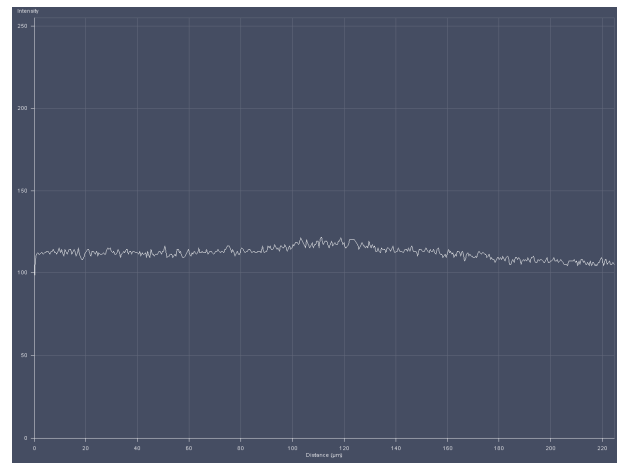

Fig. 19 Line diagram near the lower cover slip surface
- If the focus position approaches the lower cover slip surface, the position of the line will shift to higher values (Fig. 19).